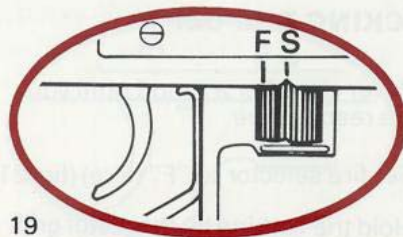

fig. 19
2. Set the fire selector on "S" (Safe). (fig. 19).